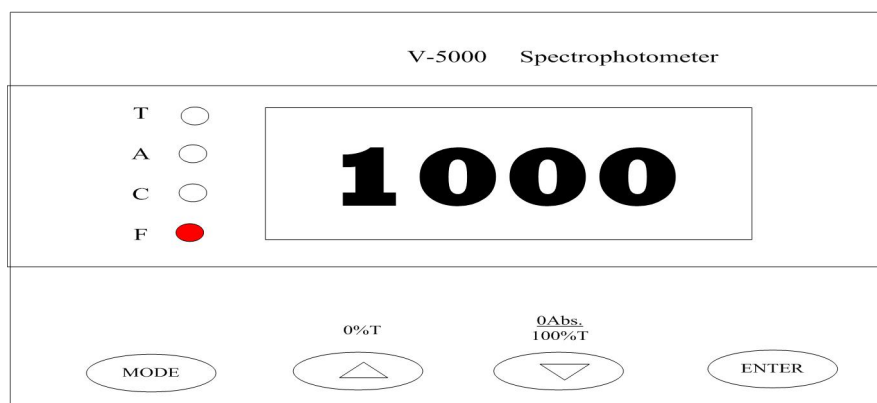

Fig.1-13
- a. Press **MODE** to set it at F mode. (Fig.1-13)